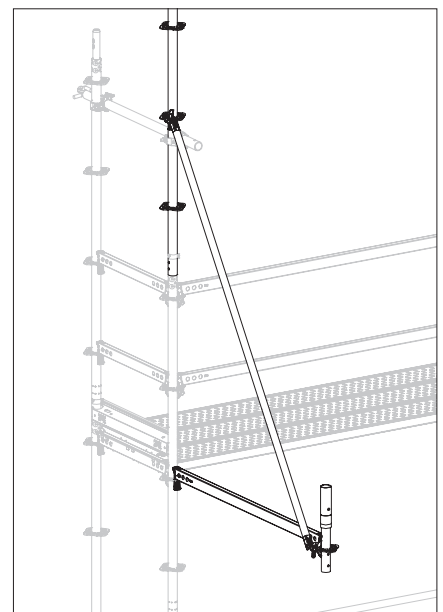

Fig. A4.04d
4. Insert the horizontal ledger in the rosette provided on the base scaffold and knock it firmly into place. (Fig. A4.04d)